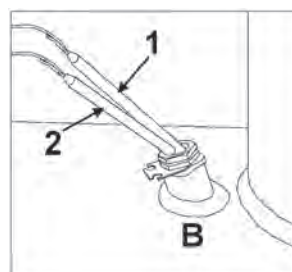

Fig. 16 - Well B
Insert in the well "B" (Fig. 16), the bulb of the 1st stage thermostat (1) and that of the 2nd stage thermostat (2).